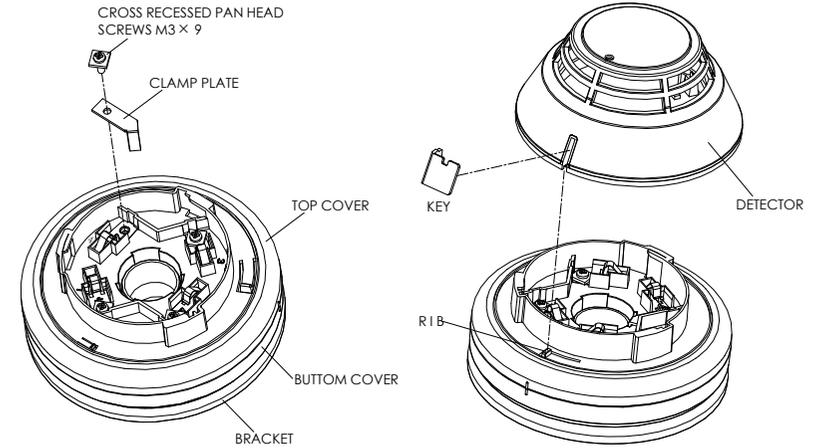

Fig.6
4. If the Sounder Beacon Base is required to be tamper-proof, fix it with cross recessed pan head screws M3×9 through tamper-proof hole, and the detector is prevented from disassembly by structural changes (see Fig 6).